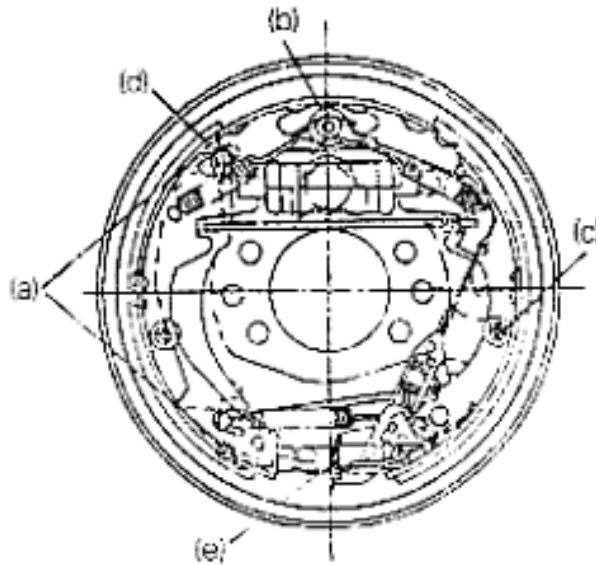

Fig 6-19 1.8t-3.5t Forklift Truck
(4) Add #2 calcium base lubricating grease at a, b, c, d respective lubricating pints as indicated in Fig 6-19, and be careful not to allow this grease to be adhibited on brake shoe.